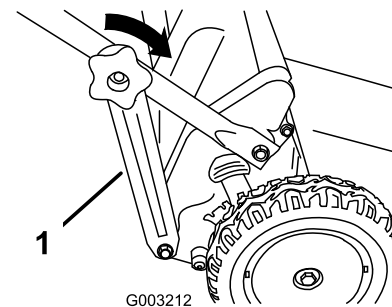

Figure 15
3. Install the lower handle knobs and tighten the knobs as tight as you can by hand (Figure 15).